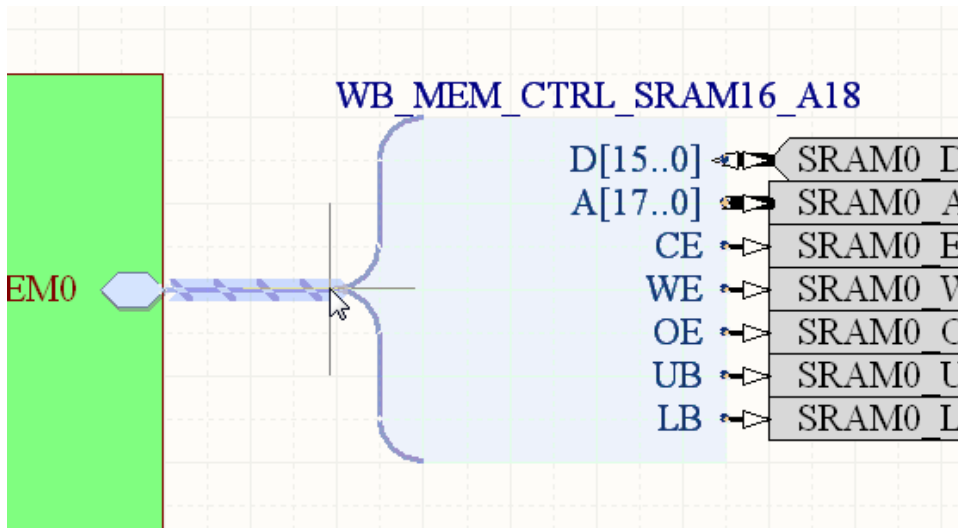

Figure 11. Drag the Harness Connector so that each entry touches a port on the memory port plug-in.
29. To drag the Harness Connector and automatically add the Harness line, hold Ctrl and click and hold on the Harness Connector, then drag it across so that each Harness Entry touches a pin on the memory port plug-in, as shown in Figure 11.